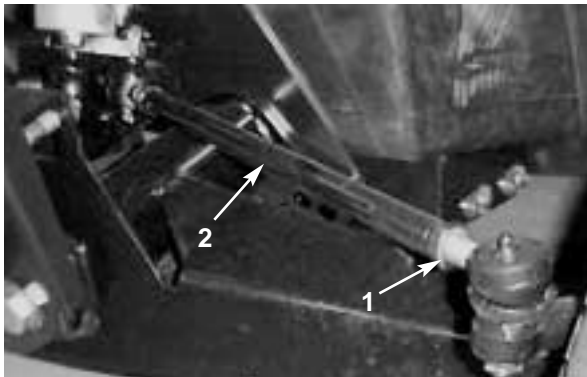

Figure 30
2. To adjust, loosen jam nuts at both ends of tie rods (Fig. 30).